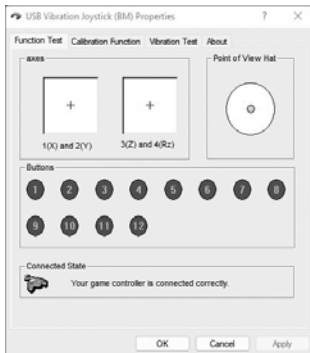

Fig. 9
• To check and configure in DirectInput mode, select Properties in the Game Devices window, and the Properties window: LS-USBMX1/2/3 Steering ...pops up. In the «Function Test» tab, you can check the execution of commands when you press the buttons and rotate the rudder, and also check the correct connection of the rudder to the PC in the «Connected State» line (Fig. 9).